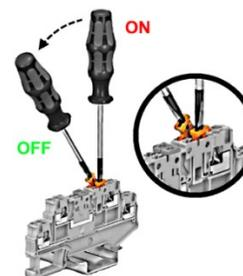

Figure 2-4. Knife Disconnect Terminal Usage
9. Open knife terminals [ANALOG DMD CH1, ANALOG DMD CH2] (**VariStroke A terminals #17 through 22, 6 terminals**) or (**VariStroke B terminals #48 through 53, 6 terminals**) inside the VS-DX J-Box (Figures 2-4 and 2-5).